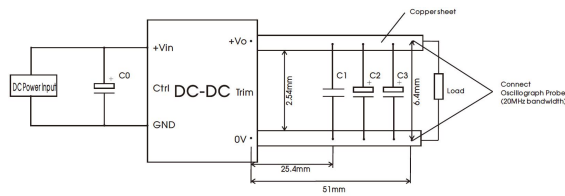

Fig.1
①The "Tip and barrel method" is used for ripple and noise test, for details please refer to Fig.1.
All the DC-DC converters of this series are tested before delivery using the recommended circuit shown in Fig. 1.